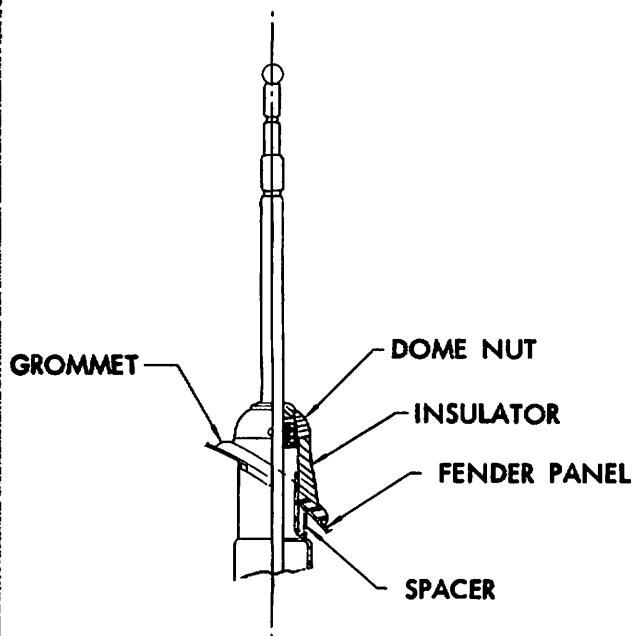
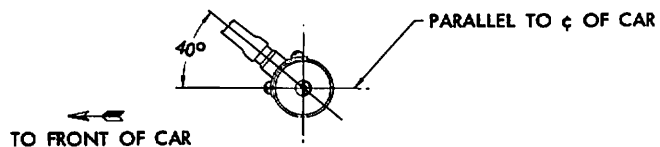

Figure 3
Figure 4
3. Install radio antenna body assembly, with spacer in place, under fender panel thru antenna hole and replace grommet, insulator and dome nut. See figure 3. Align antenna assembly so that lead-in cable is located at forty (40°) degrees to the right of center line of antenna, facing the front of car. See figure 4.